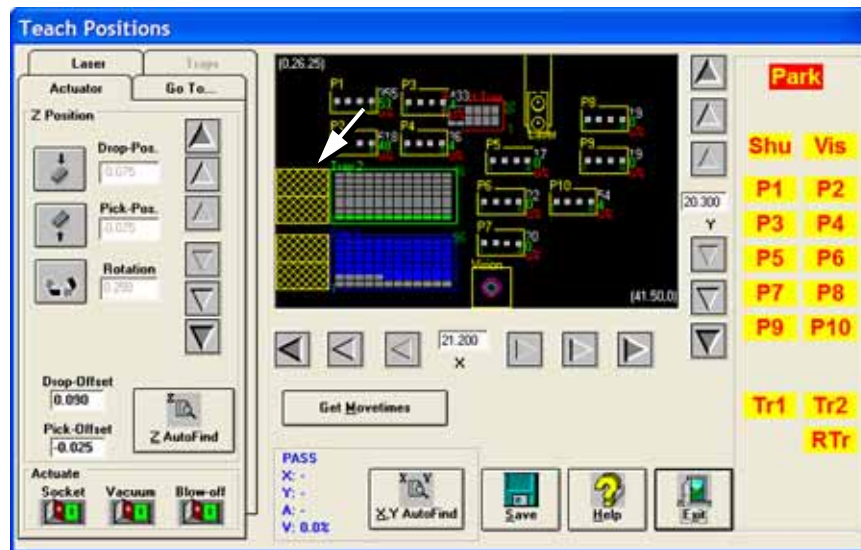

Figure 3-36: Gantry Window shown with an automatic tray feeder installed. (PS588 shown.)
**Note:** If the Automatic Tray Feeder option is installed, trays displayed in the Gantry Window are oriented as shown in Figure 3-36.